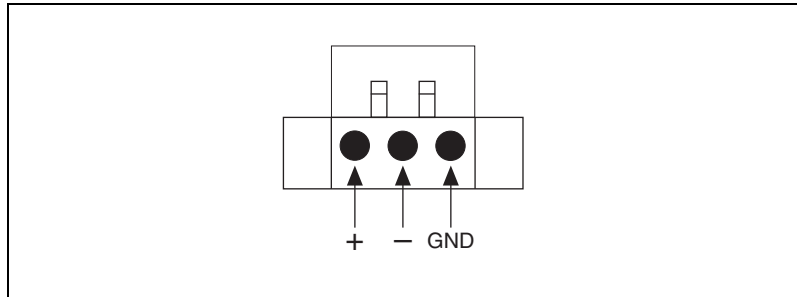

Figure 2. Power Connector
3. Connect the power connector to an 18–32 VDC power line. Be sure to connect the positive, negative, and ground lines as shown in Figure 2. The power lines can be from either a power adapter or in-house power source.